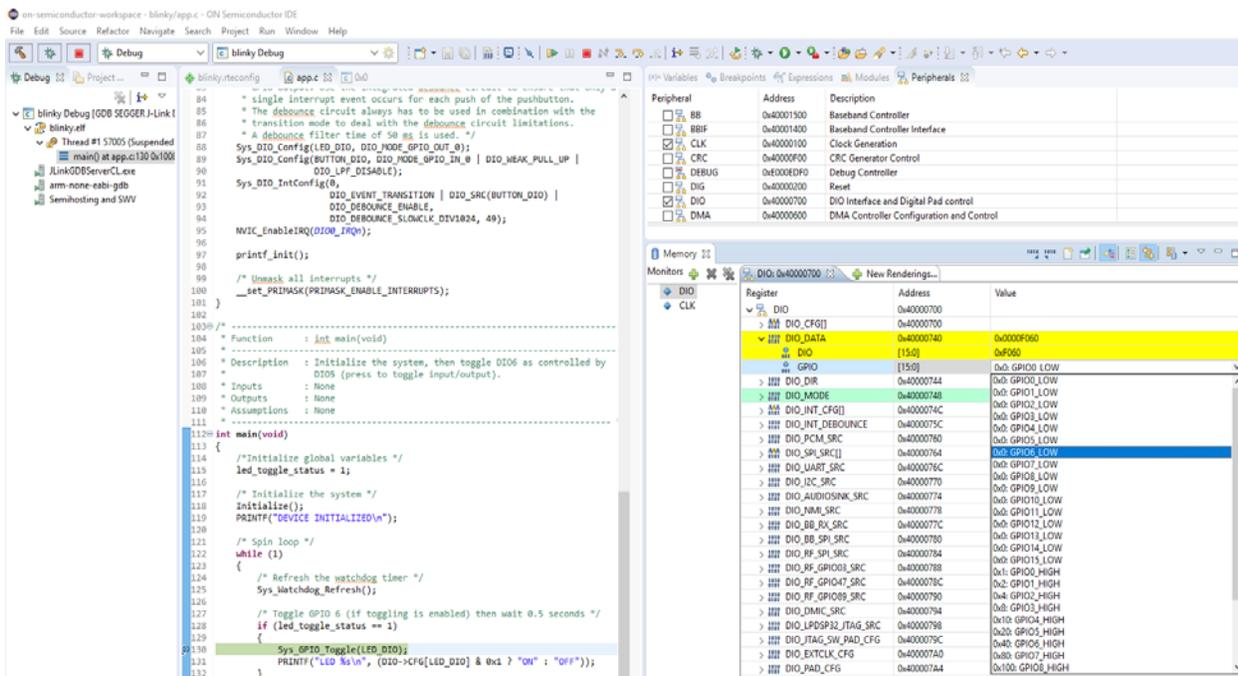
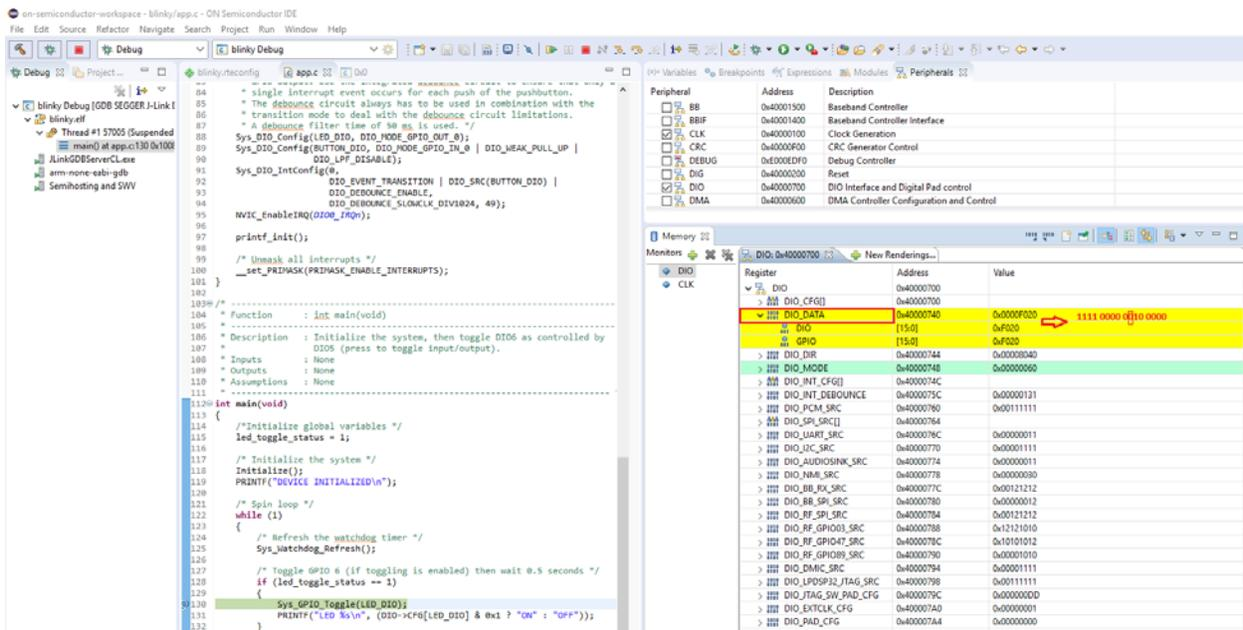

Figure 14. Toggling RSL10 DIO Using the Peripheral Registers View: Before
Figure 15. Toggling RSL10 DIO Using the Peripheral Registers View: After
6. Press F6 to step through the code. You can observe that this register's bit 6 toggles its state when `Sys_GPIO_Toggle(LED_DIO)` is executed (in this case, from 0xF060 to 0xF020). The register turns yellow to indicate that you have activated real-time monitoring for it (see Figure 14 on page 18).
- To manually change the register value, click on the **Value** field of the GPIO register to change the (**HIGH/LOW**) state of GPIO6. Figure 14 shows the view before making the change, and Figure 15 illustrates the view after making the change. You can observe that the LED (DIO6) on your board changes state.